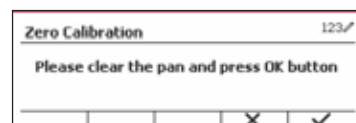

Figure 4
3. Clear the pan and then press the softkey corresponding to the ✓ icon. (See Figure 4)